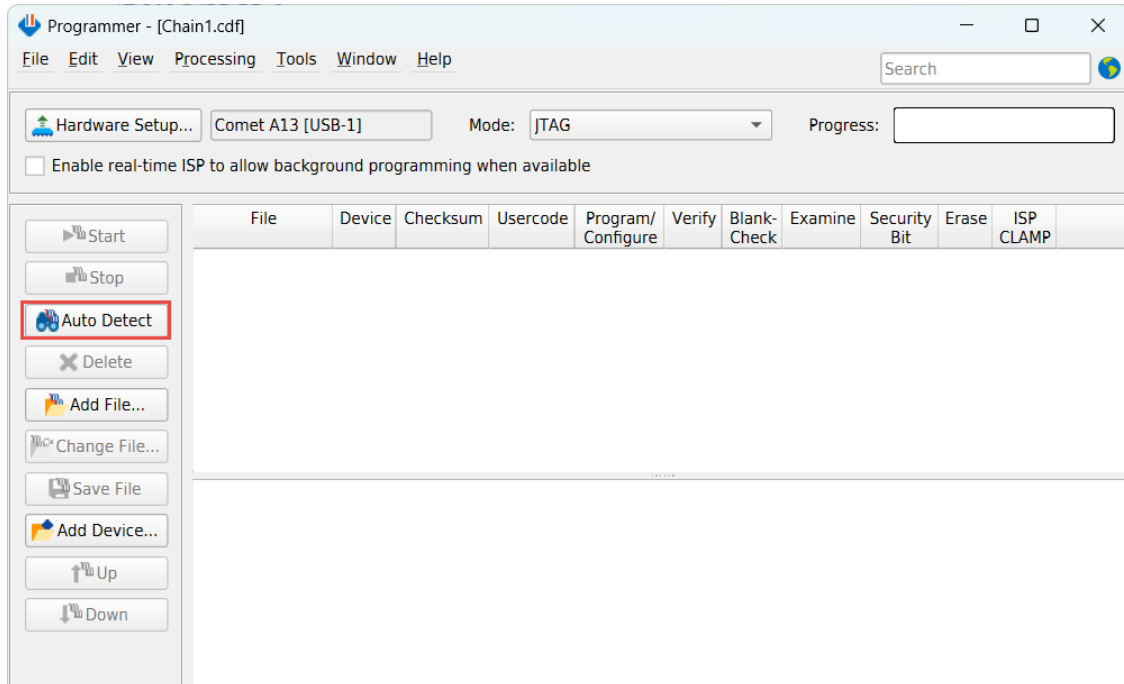

Figure 4-4 Auto detect FPGA device
- Click “Auto Detect”, as shown in **Figure 4-4**.